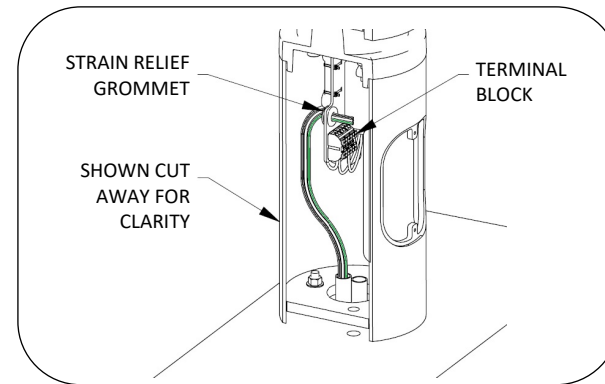

FIG. 3 – WIRING CONNECTION
13. Make wiring connections as required. Line-in wiring should run from backside of driver plate through strain-relief grommet and into terminal block, see Fig. 3.